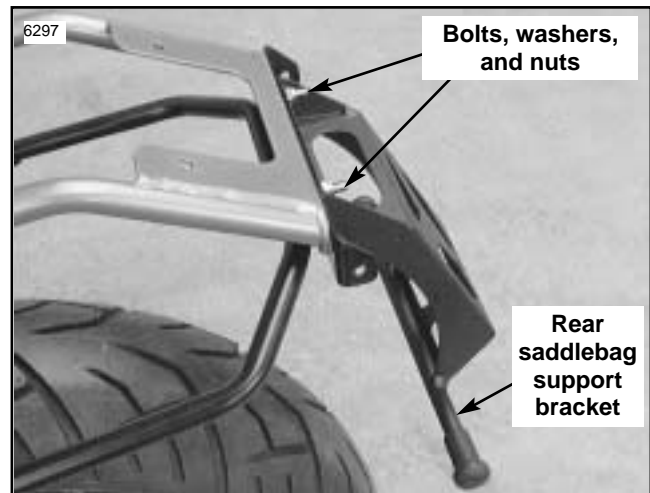

Figure 1. Attaching Saddlebag Supports
1. See Figure 1. Remove and discard the two 1/4-20 bolts, washers and nuts at rear of frame, located under the tail section. For European models, remove and discard two license plate support brackets. Remove and discard two rear foot peg bolts.
4. See Figure 1. Place the rear saddlebag support bracket into position. Install the two 1/4-20 x 1 bolts, washers and nuts furnished with the kits. Torque the bolts to 6-8 ft-lbs. (8-11 Nm).